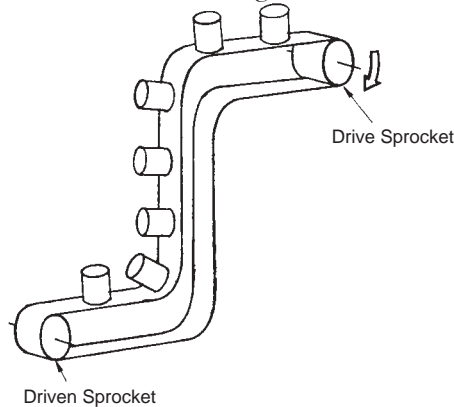

Figure 4.8 TPU Float-Prevention Tabs Allow the Chain to Follow the Direction of the System
- (1) TPU Top Chain has float-prevention tabs.
- (2) It is difficult to detach the chain from guide rails.
- (3) Float-prevention tabs allow the chain to easily follow any changes in rail direction, from horizontal to vertical (Figure 4.8).